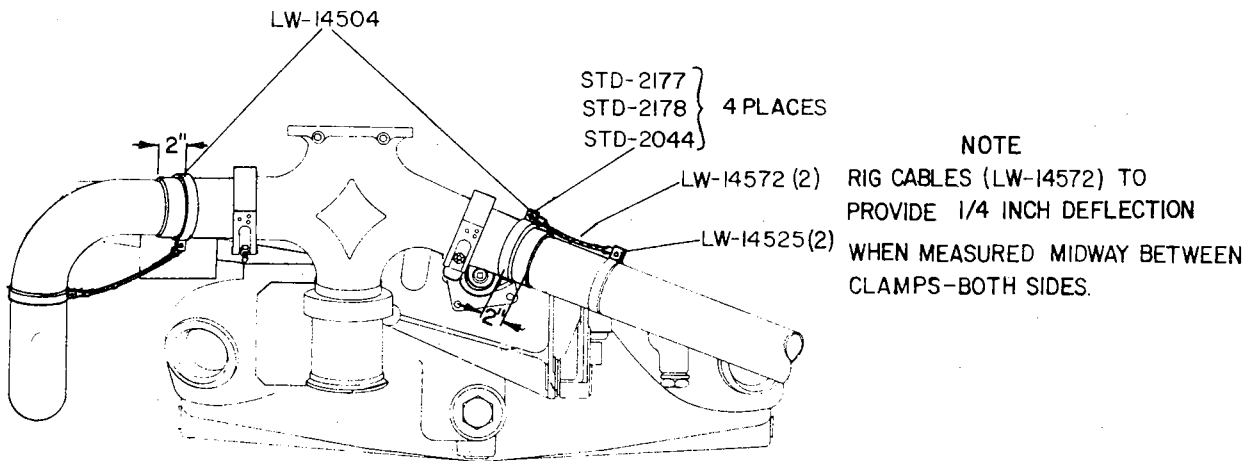

Figure 3. Area of Transition Assembly Showing Cable Assembly
6. Assemble clamps LW-14504 on adapter pipes approximately 2 inches from slip joint and LW-14525 clamps on left and right exhaust pipes. Connect cable assemblies LW-14572 to clamps with attaching parts STD-2177 bolt, STD-2178 washer and STD-2044 nuts. Attach these cables, leaving enough slack to provide 1/4 inch deflection of the cables after assembly. (See figure 3.) Tighten nuts to 60 ± 10 inch/lbs.